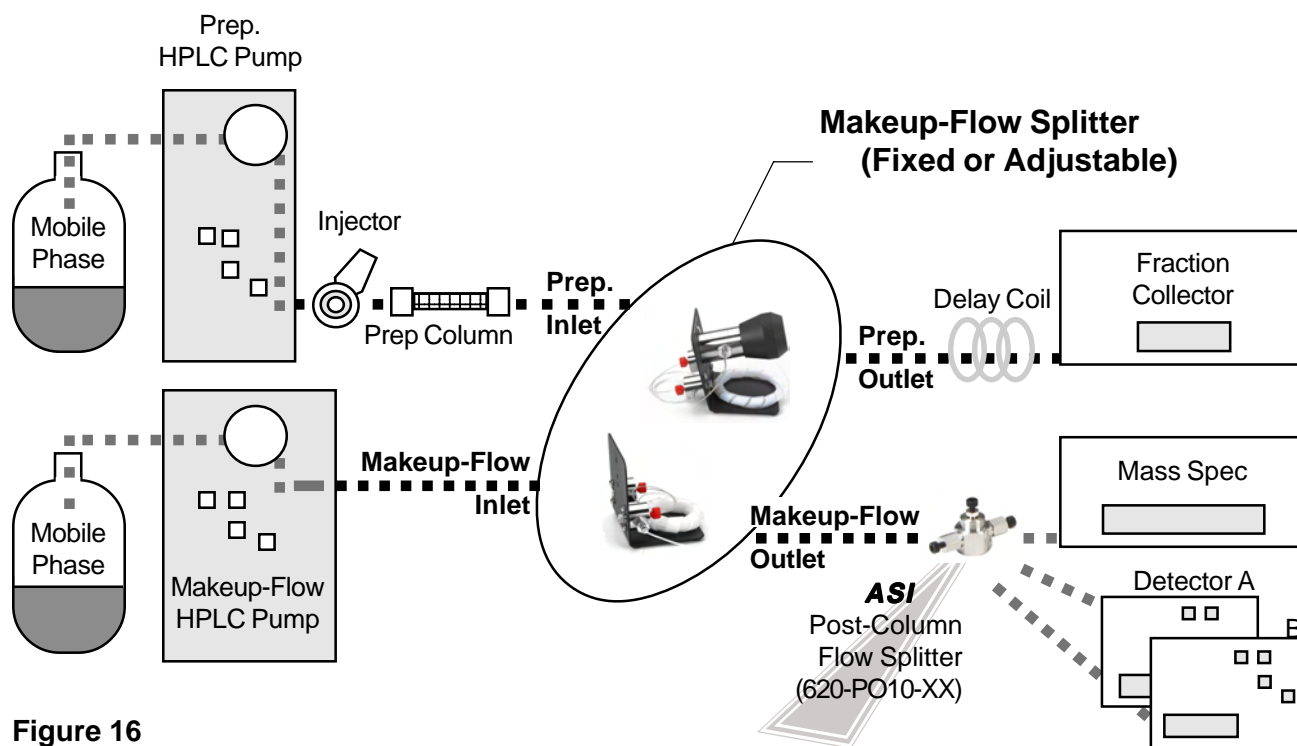

Figure 16
The *ASI QuickSplit* Makeup-Flow Splitter is designed for post-column flow splitting applications where a small amount of flow from an HPLC column is efficiently combined with a makeup-flow before it reaches the detector. Although there are many variations of this type of application, one of the most common involves splitting a small portion of the outlet flow from a preparative HPLC column which is then combined and diluted with a makeup-flow (**Figure 16**). The combined makeup-flow is used by a detector, typically Mass Spectrometer, UV or other detectors to trigger fraction collection from the remaining preparative flow. A minimum delay time of 5 seconds (maximum inlet flow) is caused by the delay coil built into the splitter to insure proper sequencing between detection and fraction collection. Unique manifold design eliminates tees and fittings within the splitter resulting in extremely low dead volume and peak dispersion. An additional binary splitter can be added after the splitter to allow additional splitting of the makeup-flow stream prior to entering the detector. Open access to all components simplifies routine maintenance and minimizes down time. Split ratio accuracy is +/- 10% for all stated values. **Custom splitter configurations (CS) are available for both fixed and adjustable splitters to meet specific application requirements. If you have questions about which splitter is right for your application, please contact the technical support group at ASI.**